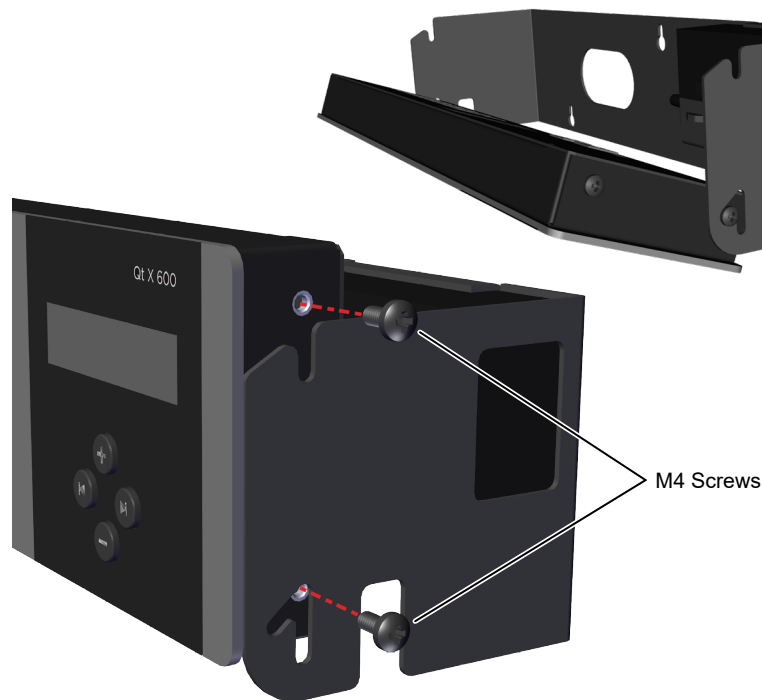

Figure 35. Mount unit to wall bracket and rotate down
- Attach the controller to the wall bracket by aligning the lower holes on either side with the angled slot. Install the lower screws, but do not tighten, allowing the bracket to move. Loosely install the upper screws without capturing the upper slots in the bracket (Figure 35). The control module rotates forward for wall mounting and cable installation.